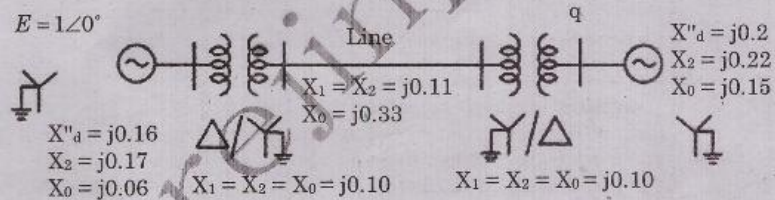

Fig. 6
- (b) Calculate the sub-transient current in each phase for a dead short circuit on one phase to ground at bus 'q' for the system shown in figure 6.